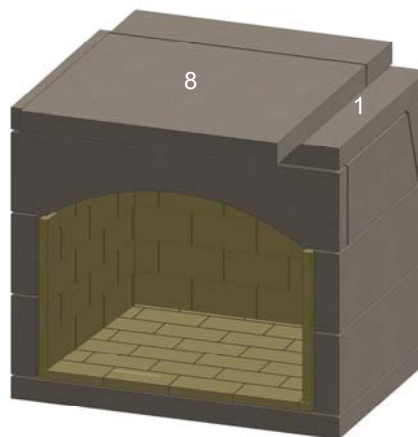

Figure 20. Oven Base Plate
N. Install the oven base plate (8). Apply a bead of mortar approximately 3" wide to the top plate of the firebox (1) in the areas below the edges of the oven base plate, and create a z pattern of mortar through the middle area under the oven base plate, aligning it with the front edge of the base plate extension, and centering it from side to side. See Figure 20.